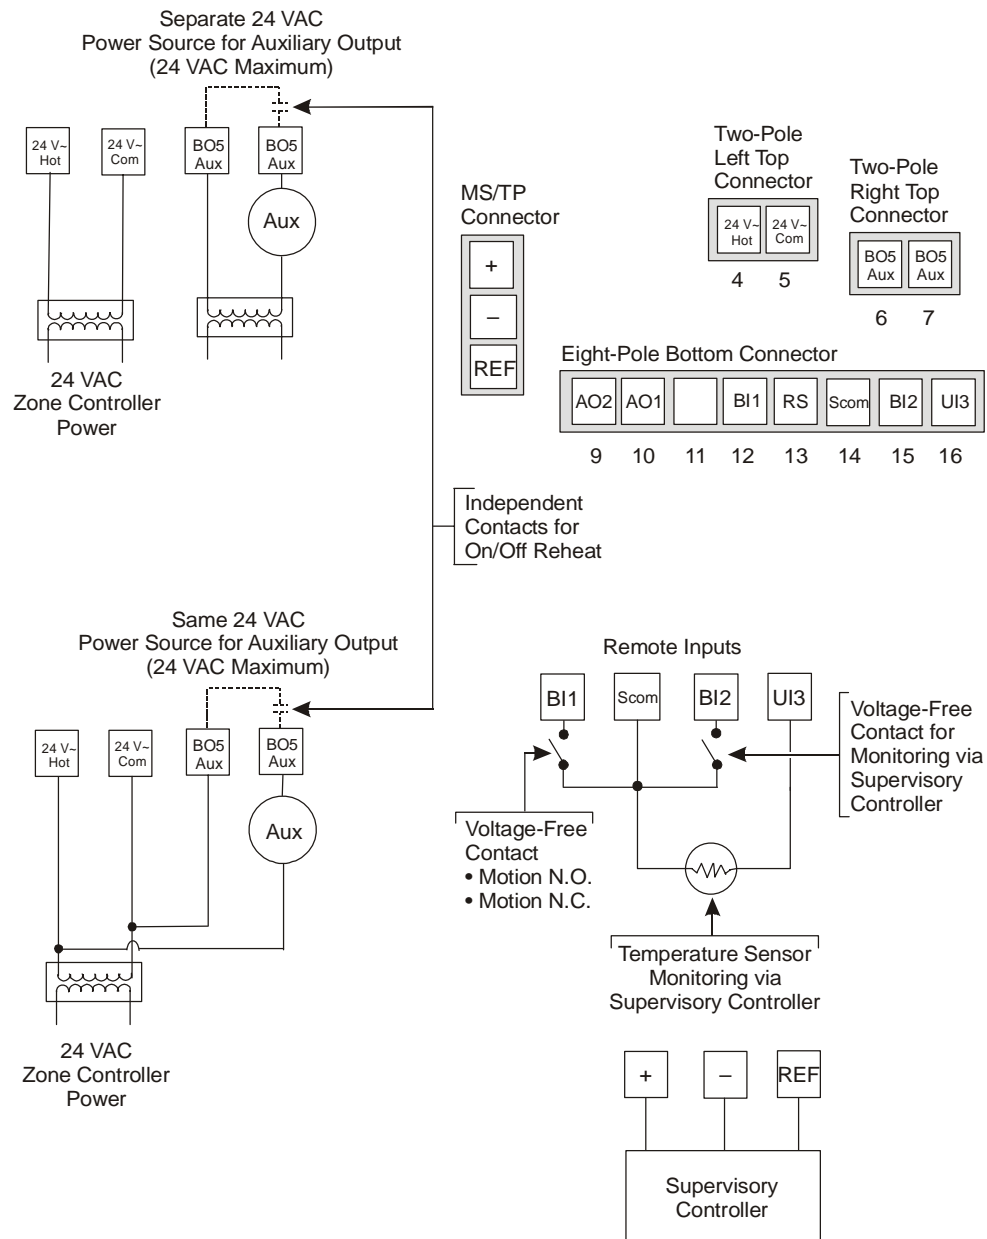
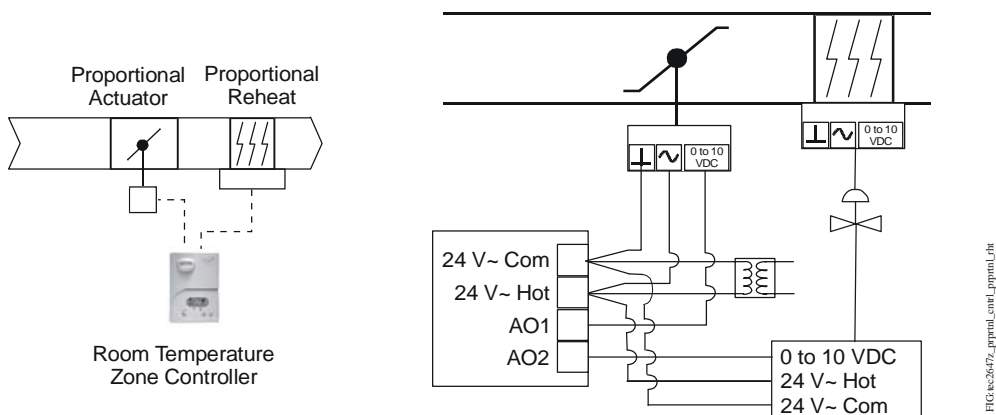

Figure 6: Wiring the TEC2647Z-2 or TEC2647Z-2+PIR Zone Controller (See Table 1.)
Figure 9: Wiring the Zone Controller for Proportional 0 to 10 VDC Control and Proportional Reheat
1. Strip the ends of each wire 1/4 in. (6 mm), and connect them to the appropriate screw terminals as indicated in Table 1 and Figure 6 through Figure 9.
Table 1: Terminal Identification (See Figure 6.)